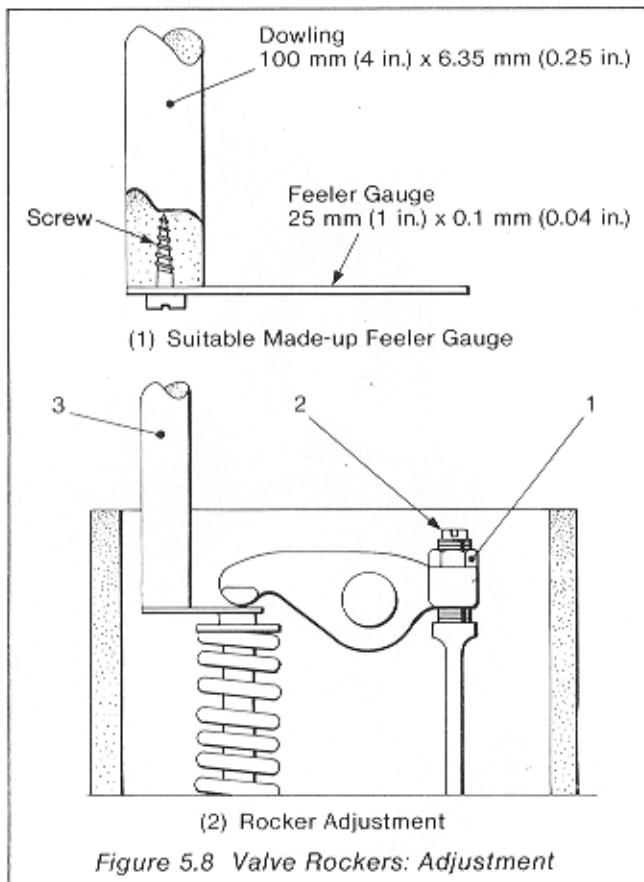

Figure 5.8 Valve Rockers: Adjustment
### Valve Rockers Adjustment (Figure 5.8)
- (1) Set the engine at TDC on the firing stroke (both valves closed).
- (2) Slacken the locknut (1) and using a screw driver set the rocker adjusting screw (2) to give the correct clearance using a feeler gauge (3). When the correct clearance of 0.10 mm (0.004 in.) is obtained with the engine cold tighten the locknut.
- (3) Recheck the clearance.
Because of the close confines of the rocker box difficulty in obtaining an accurate adjustment with a standard feeler gauge will be experienced. It is recommended that a feeler gauge be made up as shown in Figure 5.8 (1) to overcome this difficulty. It is important to have accurate adjustment of the tappet clearances in order to maintain reliability and full engine power.